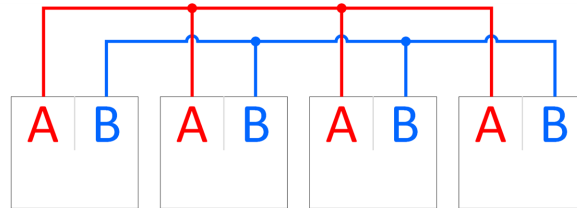

Figure 13 Daisy chain wiring
1. With the power off, daisy-chain wire the RS-485 connections (as shown in Figure 13 above).